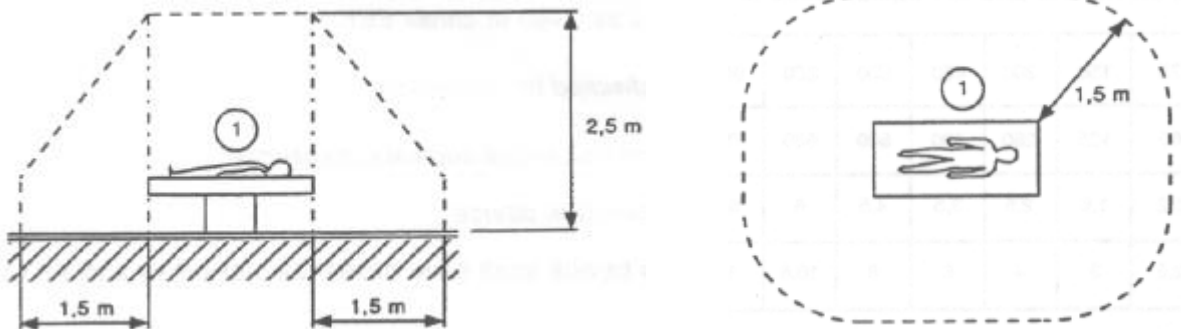

Fig 1
- Within "Patient Area" (see Fig 1) it is recommended to use washable waterproof devices.
- Within "Patient Area" (see Fig 1) it is recommended to use washable, sterilizable rubber keyboards and mouse devices. For "touch screens" capacitive technology (insensitive if used with gloves) is recommended because it discourages using gloves (sometimes contaminated).